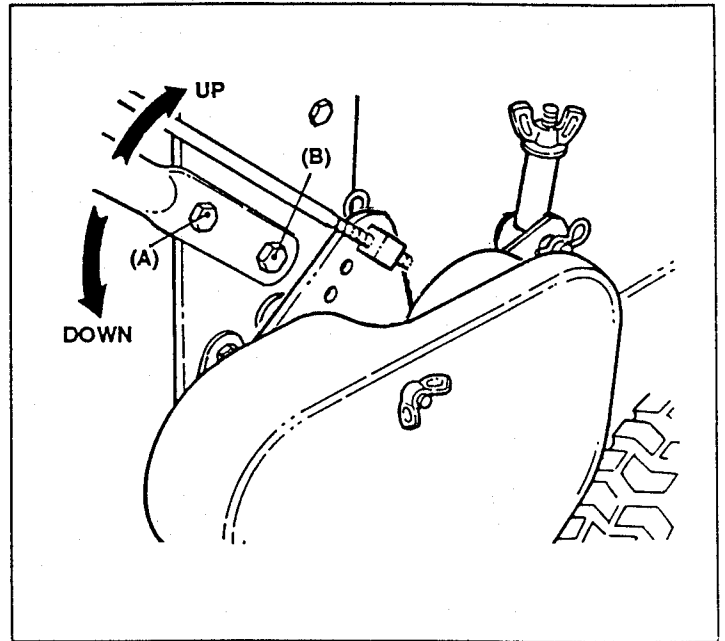

FIGURE 41
3. Loosen Upper Bolt and Nut (A) on both sides. Remove Bolt and Nut (B) on both sides. Pivot Handle up or down while placing bolt into selected hole position. Secure Bolts and Nuts. See Figure 41.